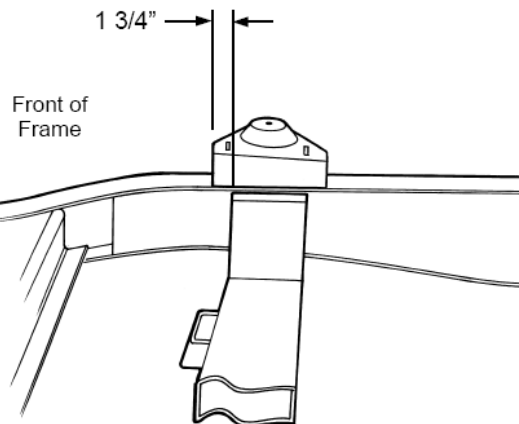

Figure 5- Spring Towers Install
7. Next are the spring towers. They sit on top of the frame rails, and are located 1 3/4" forward of the crossmember, as shown in **Figure 5**. Clamp in place, double check your dimensions, then weld all around, including the gusset flanges on the sides of the rails. For added strength, you can also weld the inside of the gusset flanges.